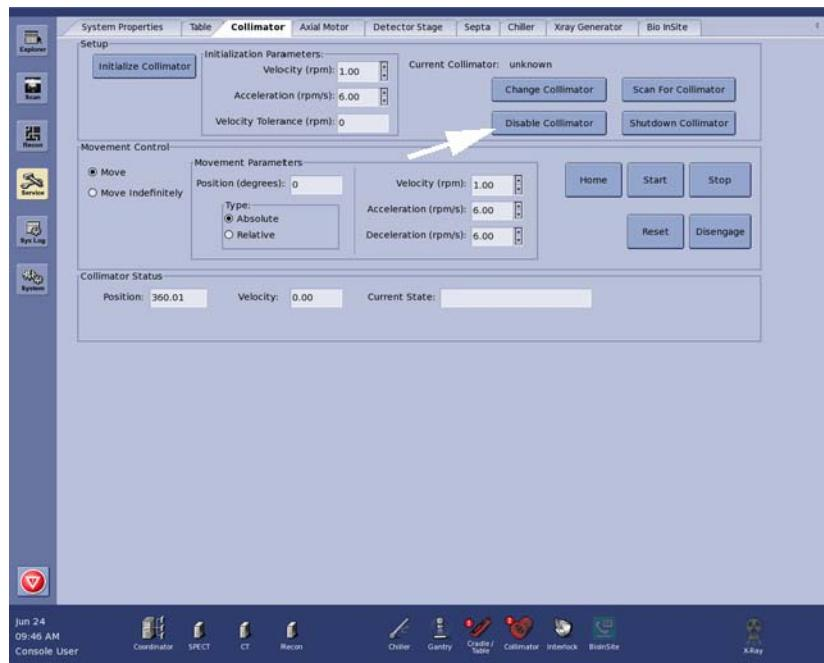

Figure 7-13
- 1.) Click the Disable Collimator button on the Collimator Service page (Figure 7-13). A dialog box appears, warning the user that automatic cradle collision checking is disabled. If Yes is clicked, this allows the procedure to continue without a collimator